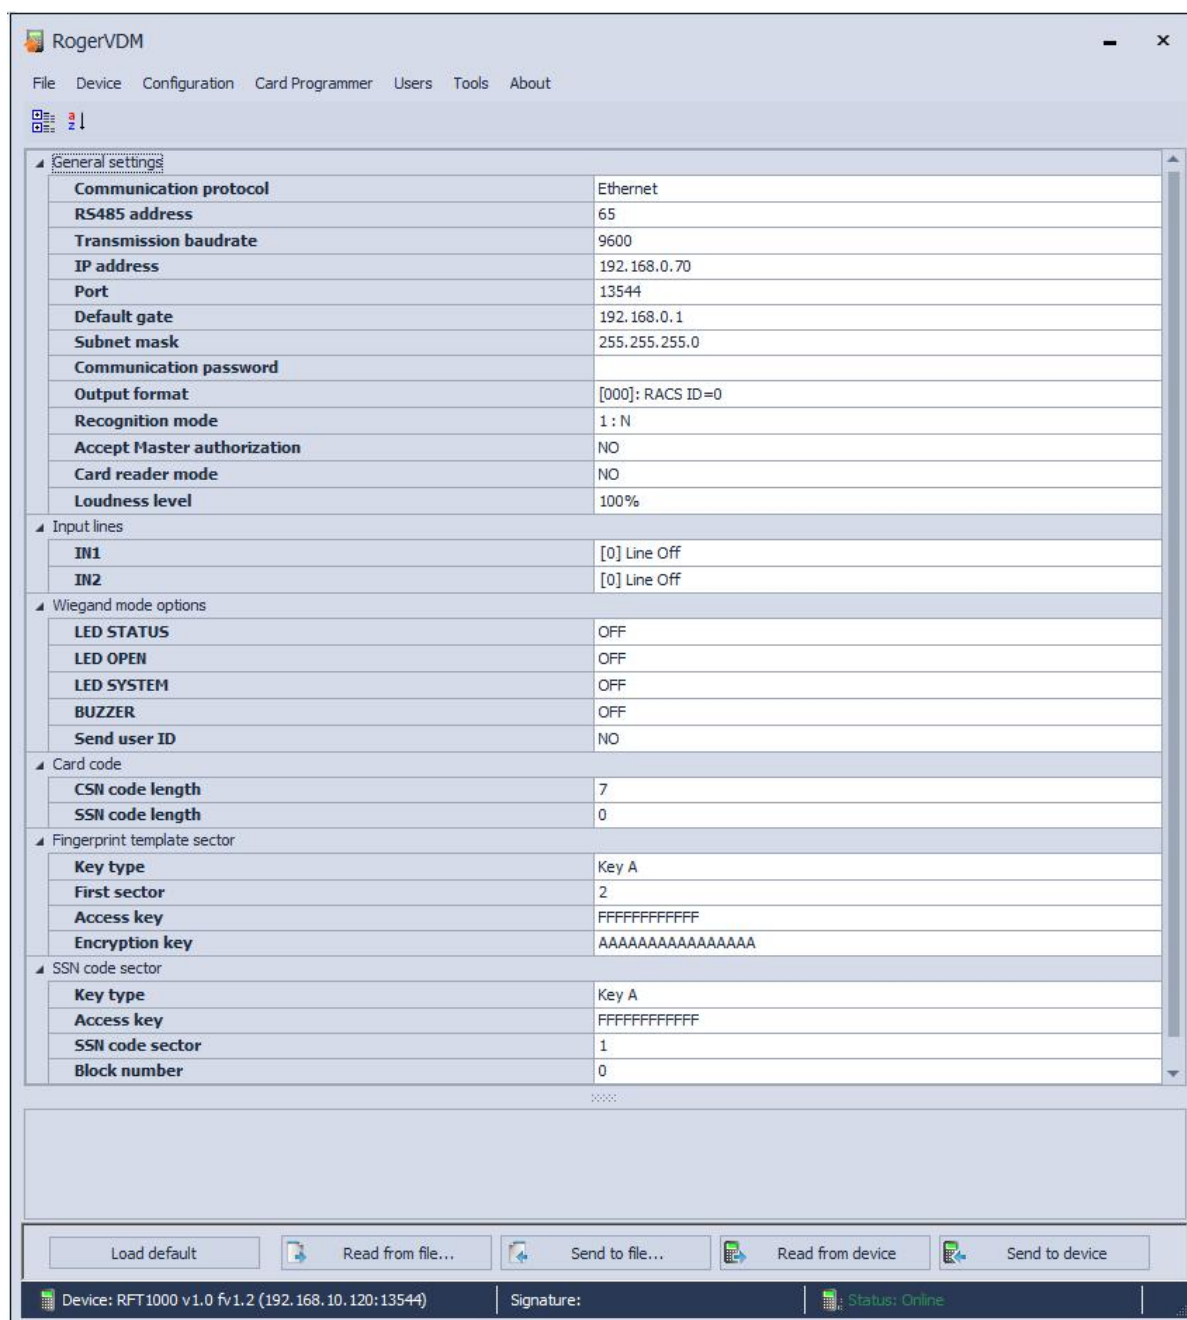
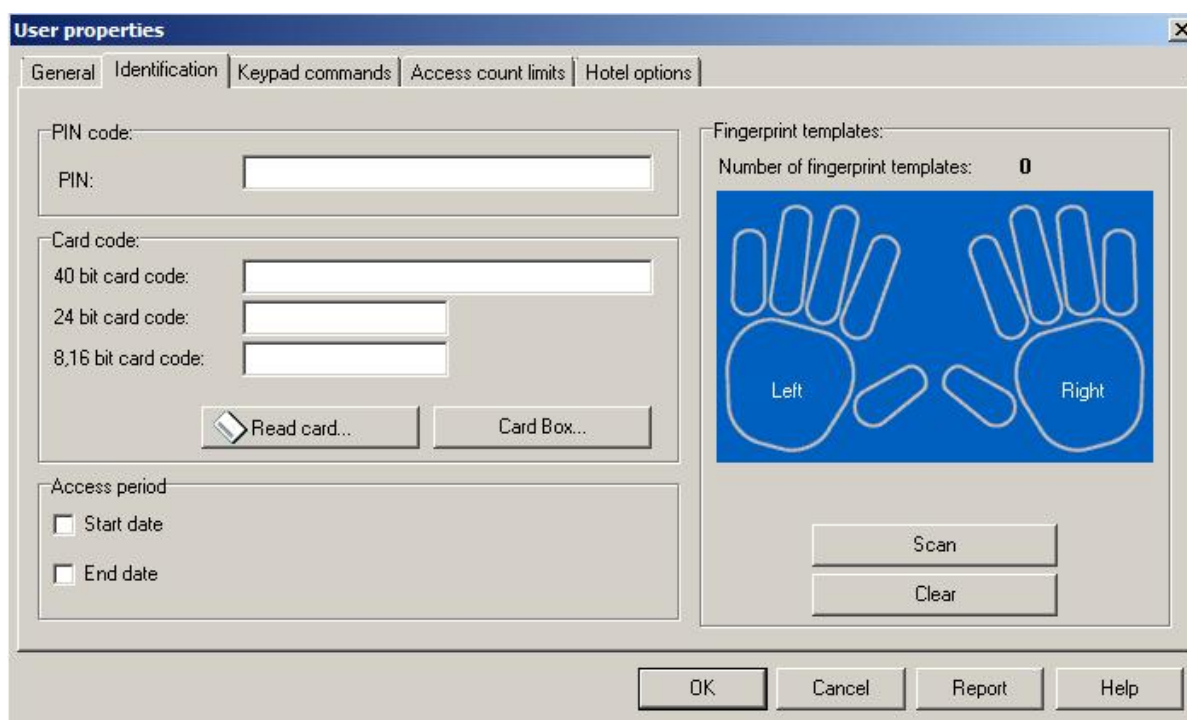
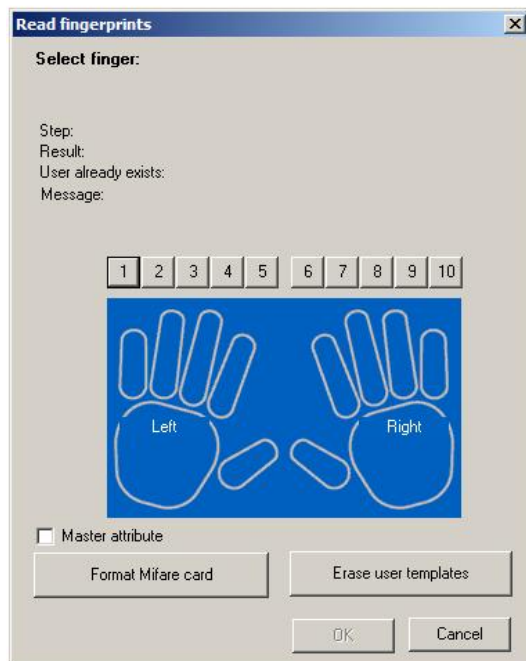
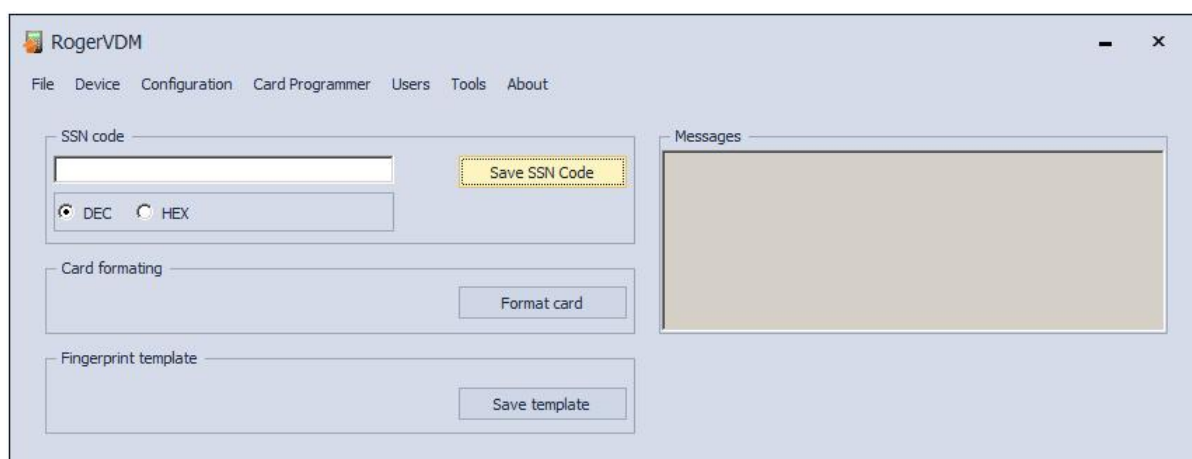

Fig. 7 RFT1000 configuration in RogerVDM software
Fig. 10 Identification tab in user properties
Fig. 11 Fingerprint scanning window in PR Master
Fig. 12 SSN code definition
After establishing the connection it is possible to modify communication parameters both for Ethernet and RS485 communication in the newly opened window, which can be accessed by selecting the option **Configuration** in the top menu. In the area **General settings** (see fig. 7) enter your settings and then upload the configuration to the reader by means of **Send to device** button.
RogerVDM software enables configuration of RFT1000 inputs. Related options are available in the area **Input lines**, which can be displayed by means of the command **Configuration** in the top menu of RogerVDM software (see fig. 7). When RFT1000 reader is installed in RACS 4 system, only the function **[5]: Card Reader Mode** is applicable. Other available functions are used beyond RACS systems.
the next window, in the tab **General** enter first/last name of user and select Group. In the tab **Identification** (see fig. 10), card number, PIN and/or fingerprint templates can be assigned to the user.
Selection of the button **Scan** results in opening the window (see fig. 11), which enables scanning and assigning of fingerprint templates to particular user.
Enrolment of user in this mode requires selection of **Scan** button in the window shown in fig. 10. In the newly opened window select the button **Configure** in order to upload data to RFT1000 administrator reader and then select the button **Read**. The memory of such reader shall be overwritten for the period of fingerprint scanning. The idea of administrator reader was applied in order to avoid erroneous assignment of the same fingerprints to different users. It is not required to use dedicated RFT1000 reader as administrator reader. Any RFT1000 available in RACS 4 can be used as administrator reader. The memory of such reader shall be overwritten for the period of fingerprint scanning but after upload of configuration data to RACS 4 system, its settings shall be restored.
In the window shown in fig. 11 fingers for scanning can be selected by means of numeric buttons. When selected, scanning procedure is started and it is necessary to follow displayed messages. After fingerprint scanning, close the window by means of **OK** button. Then in the window shown in fig. 10 user's card number can be specified. Card number can be entered manually in the field **40bit card code** or it can be read by available MIFARE reader in the window opened by means of **Read card...** button. Depending on RFT1000 configuration, built-in proximity reader can be activated or deactivated. Therefore card number can be read by means of such devices as PRTxxMF series reader (if available), RUD-3 reader (if available) or RFT1000 MIFARE reader (when
Enrolment of user in this mode requires selection of **Scan** button in the window shown in fig. 10 and then selection of RFT1000 reader to be used in fingerprint scanning.
1. It is recommended to format (erase) card memory by means of the button **Format Mifare card** (see fig. 11).
3. After closing the window with **OK** button it is necessary to assign MIFARE card number to the user in the field **40 bit card code** (see fig. 10)
5. In order to use built-in MIFARE card reader, click the button **Read card...** (see fig. 10), select controller with RFT1000 reader, place card in vicinity of RFT1000 and when LED OPEN (green) flashes scan fingerprint, which is already recorded on card.
Any user can have Master attribute. When the option **Master attribute** is activated for particular user (see fig. 11) then such user will not be obliged to scan his fingerprint at all RFT1000 readers with activated option **Accept Master authorization** (see fig. 7). Such user shall be identified only by means of his MIFARE proximity card number.
It is also possible to define sectors in MIFARE Classic memory cards, where fingerprints templates are to be recorded. Related options are available in the configuration window of RogerVDM software in the area **Fingerprint template sector** (see fig. 7):
User identification by RFT1000 reader depends on selected recognition mode (see section 4.2.1), input with function **[5]: Card Reader Mode** (see section 4.1.3) and option **Card reader mode** (see fig. 7). Input **[5]** is used for dynamic switching of user identification method in such way that it depends on input state. More information on application of the input **[5]** is given in table 4 below. The option **Card Reader Mode** is applicable only for 1:N recognition mode and it enables permanent activation of card reader in RFT1000. When this option is selected then user can identify by means of card or fingerprint templates as needed.
MIFARE Classic and MIFARE Ultralight cards have their read-only serial numbers called CSN and memory, where administrator defined number called SSN can be stored. Optional SSN code provides additional security as it can be saved in administrator defined sector and it can be protected with access code against unauthorized reading. RogerVDM software enables defining of SSN code and recording it to any available sector of MIFARE card memory. RFT1000 reader can identify particular card (user) by means of CSN code, SSN code or combination of both but the total number identified in RACS 4 system is limited to 5 bytes. Options related to reading of CSN and SSN codes are available in **Card code** area of reader configuration window (see fig. 7)
SSN code as opposite to CSN code of MIFARE card can be defined by administrator. SSN Code as well as its sector in memory and method for recording can be indicated by administrator. SSN code can be defined and recorded by means of RogerVDM options, which are available in the area **SSN code** in the **Card programmer** window (see fig. 12). After selection of **Save SSN code** button it is necessary to hold the card in vicinity of RFT1000 reader. The code can be entered in decimal or hexadecimal format. Location and recording method can be defined by means of options, which are available in the area **SSN code sector** (see fig. 7):
The communication with RFT1000 reader both in case of Ethernet and RS485 port can be encrypted with AES128 CBC standard. By default, encryption is conducted with empty communication password. Administrator can define his own communication password (max. 16 digits) in reader configuration window in the field **Communication password** (see fig. 7).